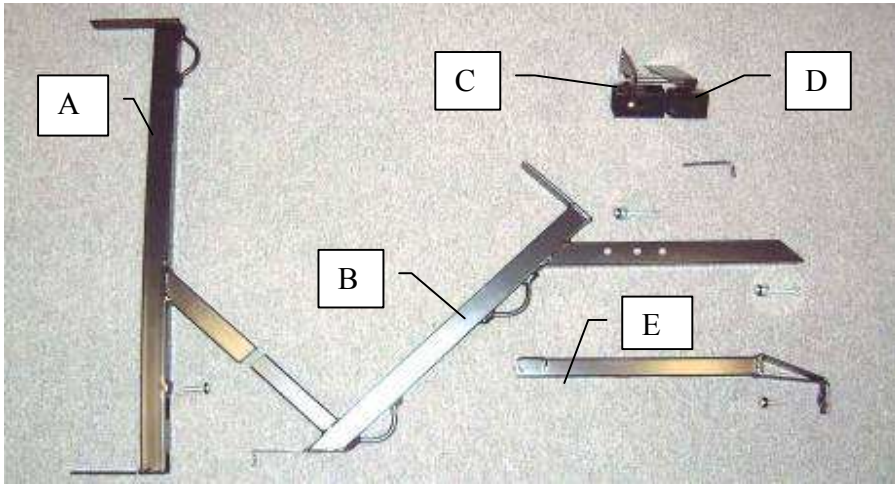
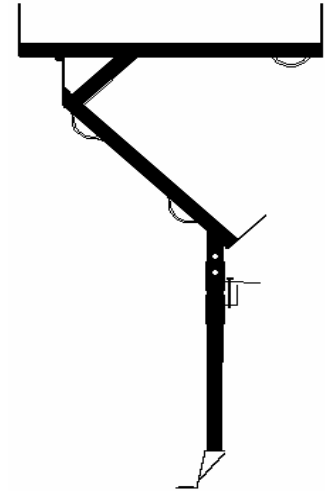

Fig. 1
Fig. 2
1. **ASSEMBLE MAIN BODY OF RACK.** Locate one Horizontal Arm (A) and one Diagonal Arm (B). Orient them as shown in Fig. 1 and insert the male extension on the top of the Diagonal Arm into the female receiver on the bottom of the Horizontal arm. When fully inserted, the threaded hole on the bottom of the Horizontal Arm should align with the hole in the metal strap projecting upward from the Diagonal Arm. Thread a .75-inch long screw with black nylon washer into the hole and tighten firmly with the Allen wrench. Assembled parts should appear as shown in Fig. 2.
2. **ASSEMBLE CLAMP.** Locate a Clamp Top (C) and Clamp Bottom (D). Orient and connect them using two 3.5-inch screws with nylon washers and metal washers, turning the screws just a few turns into the threaded holes. Slide assembled clamp onto the bottom of Diagonal Arm as in Figs. 2 and 3.
3. **INSERT BASE.** Locate and insert Base Tube (E) into bottom of the Diagonal Arm as in Fig. 2.
4. **ASSEMBLE SECOND SET OF PARTS.** Assemble remaining parts in same manner as the first set of parts to form a second assembly that looks like Fig. 2.